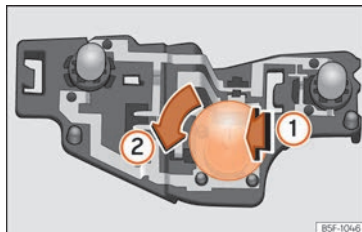

Fig. 118 Position of the bulbs in the bulb holder
- Lightly press the defective bulb into the bulb holder (1), then turn it to the left (2) and remove it »» Fig. 118.